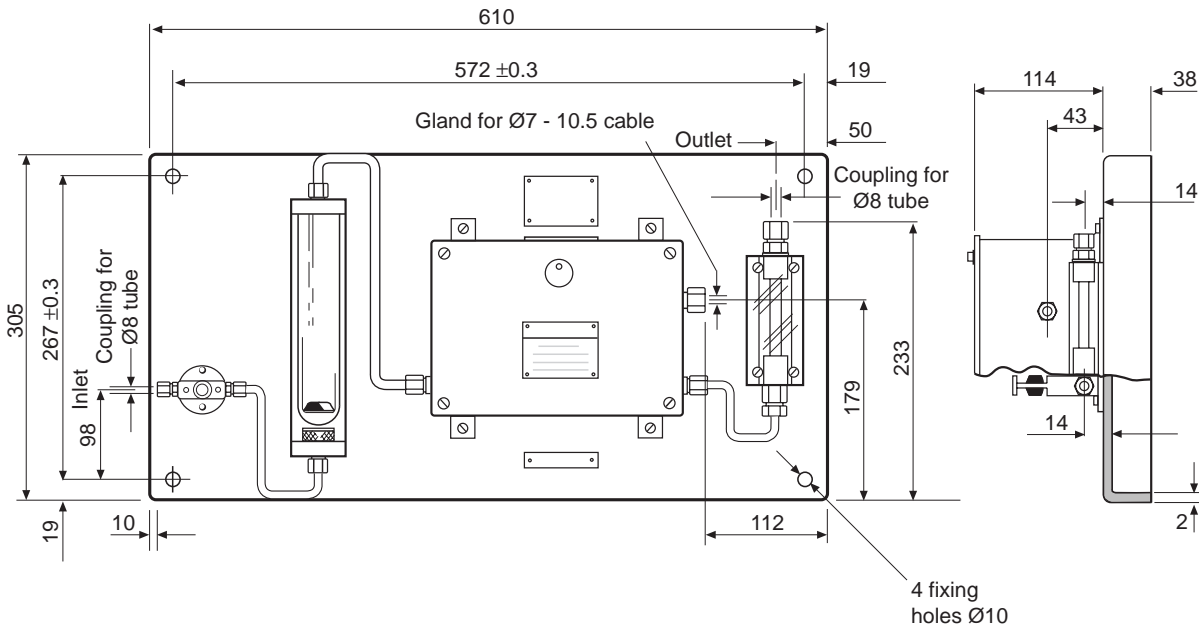

Fig. 4.2 Installation Dimensions and Interconnection Positions – Model 6540 203 Katharometer Analyzer Panel
4.1.2 Model 6540 203 Katharometer Analyzer Panel – Fig. 4.2